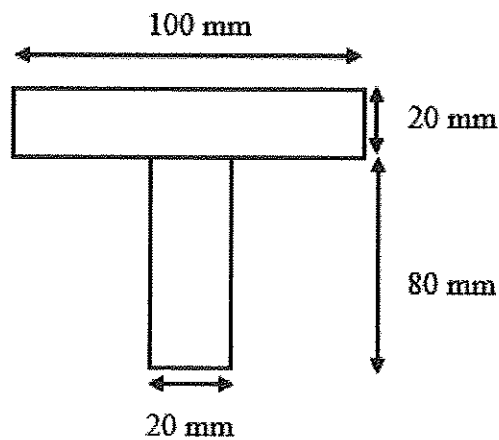

Figure 3(b)
- (b) The **Figure 3(b)** below shows the cross sectional of a simply supported beam. It carries a uniformly distributed load 50 kN/m along its 7 m length. Calculate the moment of inertia.